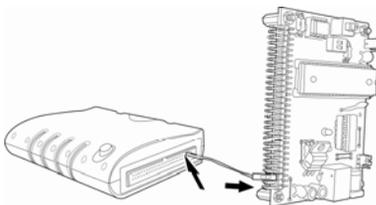

Fig. 2-19
3. The circuit board must be grounded to the LA with the connecting cables(Fig.2-19).